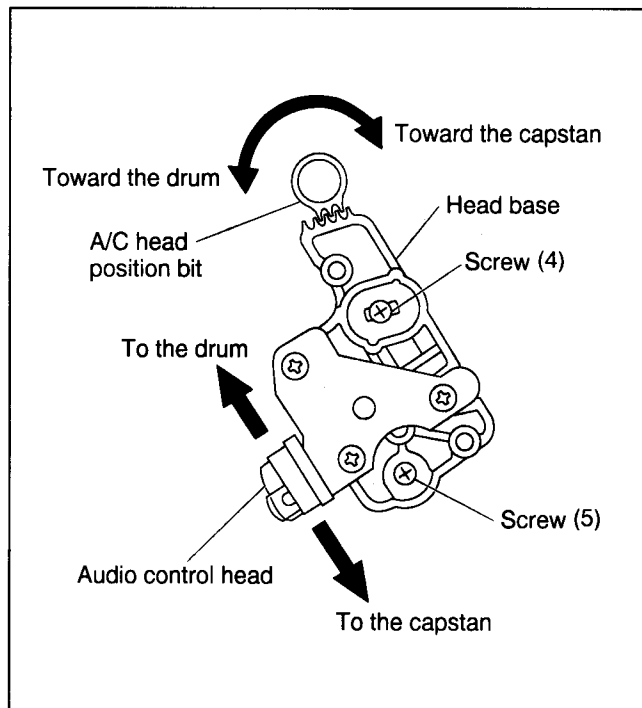

Fig. 2-4-6
- (1) Connect the oscilloscope to TP106(PB FM/COL) of the main board assembly and to TP111(D.FF) of the main board assembly for external sync connection.
- (2) Play the alignment tape (SP), and observe the FM waveforms.
- (3) Press the channel buttons (▲) and (▼) buttons simultaneously during playback to enter the manual tracking mode (This also brings tracking to the center.)
- (4) Loosen screws (4) and (5) so that the A/C head position bit is set as indicated in Fig.2-4-6.
- (5) Turn the A/C head position and first move the audio control head fully up to the capstan head. Then gradually return the audio control head toward the drum and stop it where the FM waveform reaches its maximum for the first time. Then tighten screw (4) temporarily.
- (6) Then play the alignment tape (EP)
- (7) Press the channel buttons (▲) and (▼) buttons simultaneously during playback to enter the manual tracking mode (This also brings the tracking to the center.)
- (8) Perform the tracking operation and make sure that the FM waveform is at its maximum.
- (9) If it is not at maximum, loosen the temporarily tightened screw (4) and turn the A/C head position bit to bring the audio control head to a position, around where the waveform reaches its maximum for the first time. Then tighten screws (4) and (5).